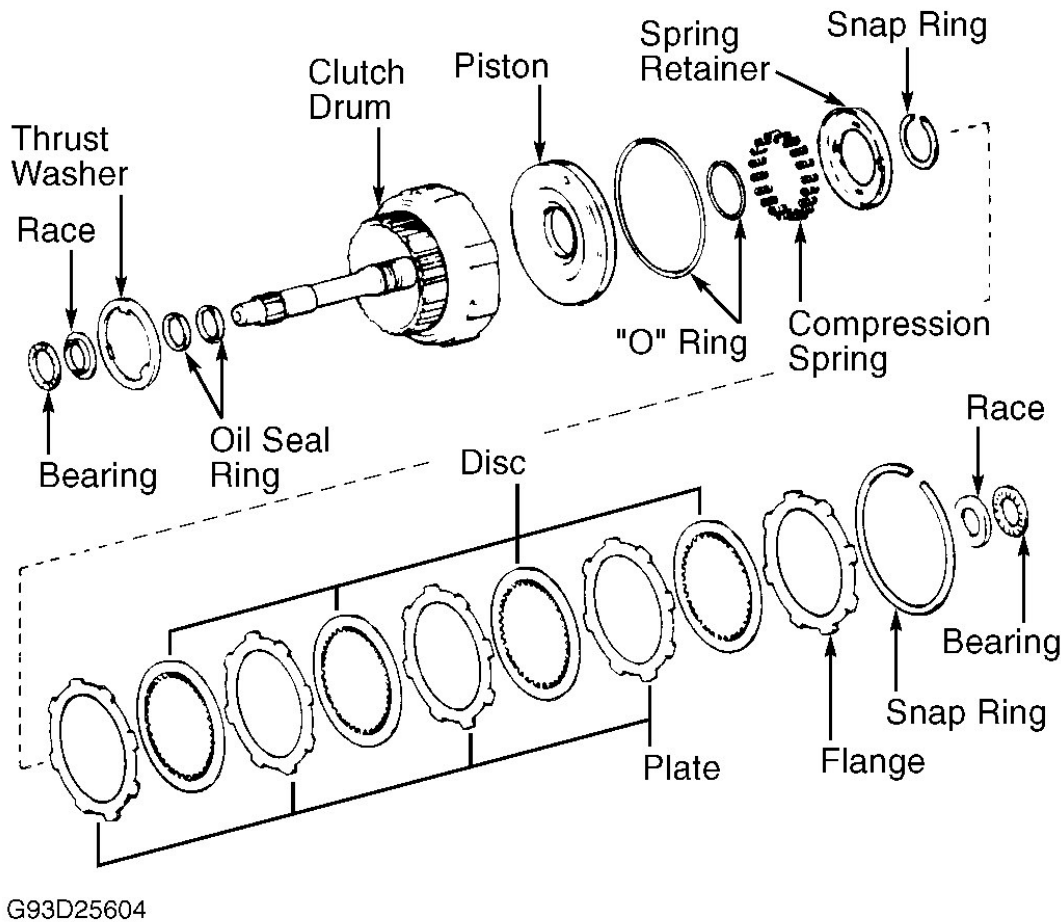

Fig. 36: Exploded View Of Forward Clutch
1. Remove thrust washer. Remove thrust bearings and races from both sides of clutch. Remove clutch drum snap ring. Remove flange, discs and plates. Note number and location of components. See **Fig. 36** . Using appropriate spring compressor, compress spring retainer and return springs.
4. Flanges are available in thicknesses of .110" (2.80 mm) to .126" (3.20 mm) in .20 mm increments. Also available are .132" (3.37 mm) and .141" (3.60 mm) flanges. Coat thrust washer, races and bearings with petroleum jelly and install components. See **Fig. 36** .